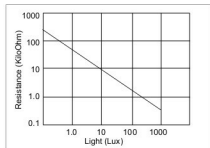

Fig. 3: Typical graph of LDR resistance as a function of light
5. Finally, transfer your findings to a spreadsheet and plot resistance as a function of light. Typically, the graph of LDR resistance as a function of light looks as shown in Fig. 3